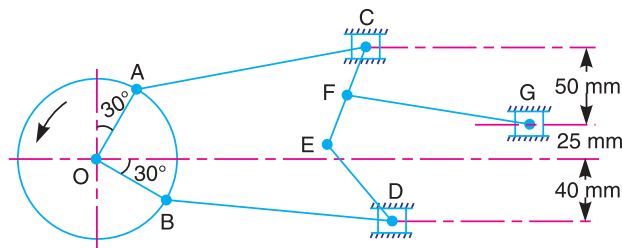

Fig. 7.32
2. In the mechanism, as shown in Fig. 7.32, OA and OB are two equal cranks at right angles rotating about O at a speed of 40 r.p.m. anticlockwise. The dimensions of the various links are as follows :